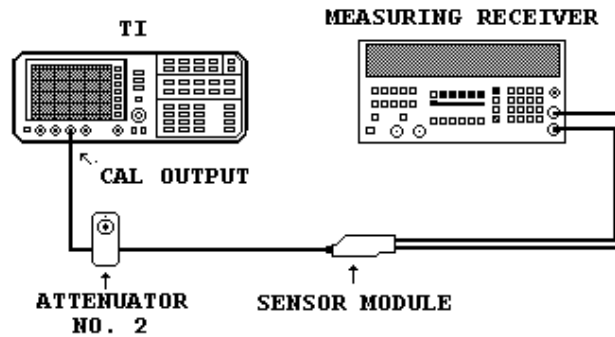

Figure 6. Marker amplitude accuracy test - equipment setup.
- (5) Connect equipment as shown in figure 6.